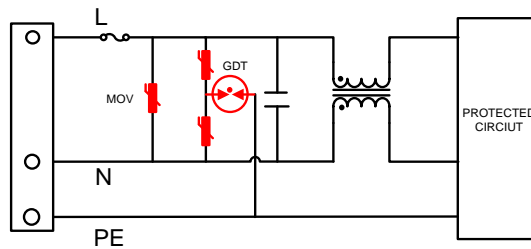

Figure 6
(2) The common mode protected MOV is connected with a GDT to the ground to slow down the aging of MOV. This scheme is suitable for medium and large power supplies. See Figure 6.